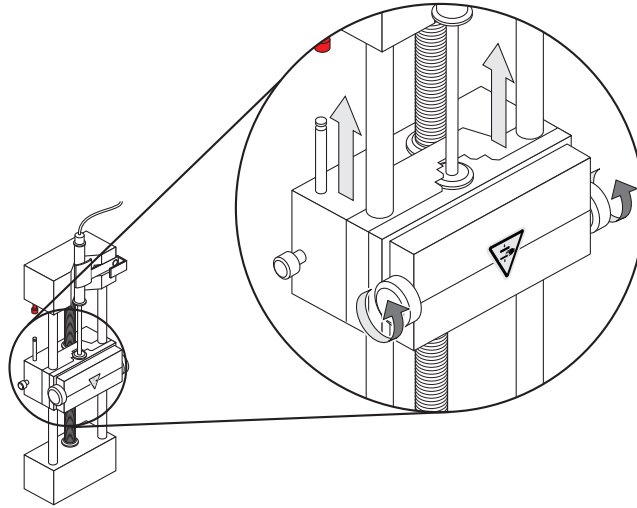

Figure 2-3 Syringe pump
3. Turn the side screws as shown in Figure 2-3 to secure the syringe.